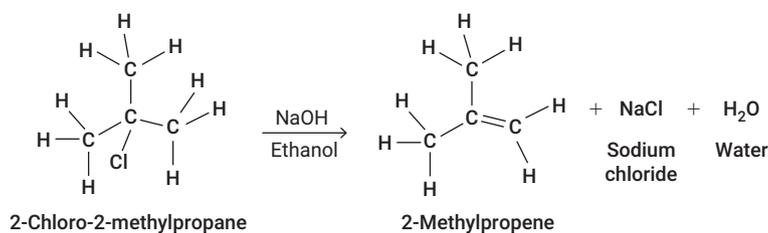

FIGURE 14.2.9 The elimination reaction of 2-chloro-2-methylpropane to form the alkene 2-methylpropene
- Primary haloalkanes tend to undergo substitution, whereas tertiary haloalkanes tend to undergo elimination (**Figure 14.2.9**). Secondary haloalkanes can undergo both reactions.